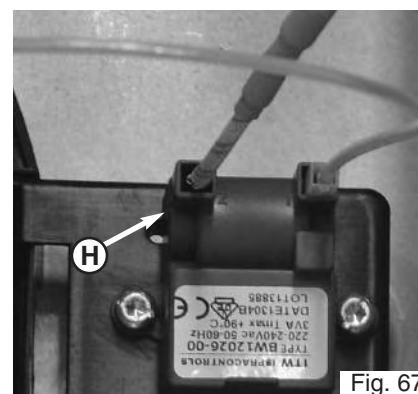

Fig. 67
3. Remove the electrode cable **H** from the ignitor (Fig. 67);